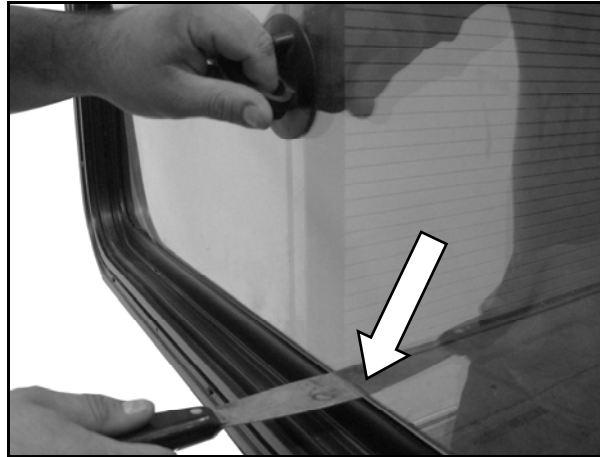

Figure 3-1. LIFT STANDARD FRAME WINDOW LINER
- 1) Refer to **Figure 3-1**. Move window liner upward. This will reveal bottom edge of window liner. This can be done by hand, simply pushing or “Popping” window liner up, or using a putty knife will pry window liner up.